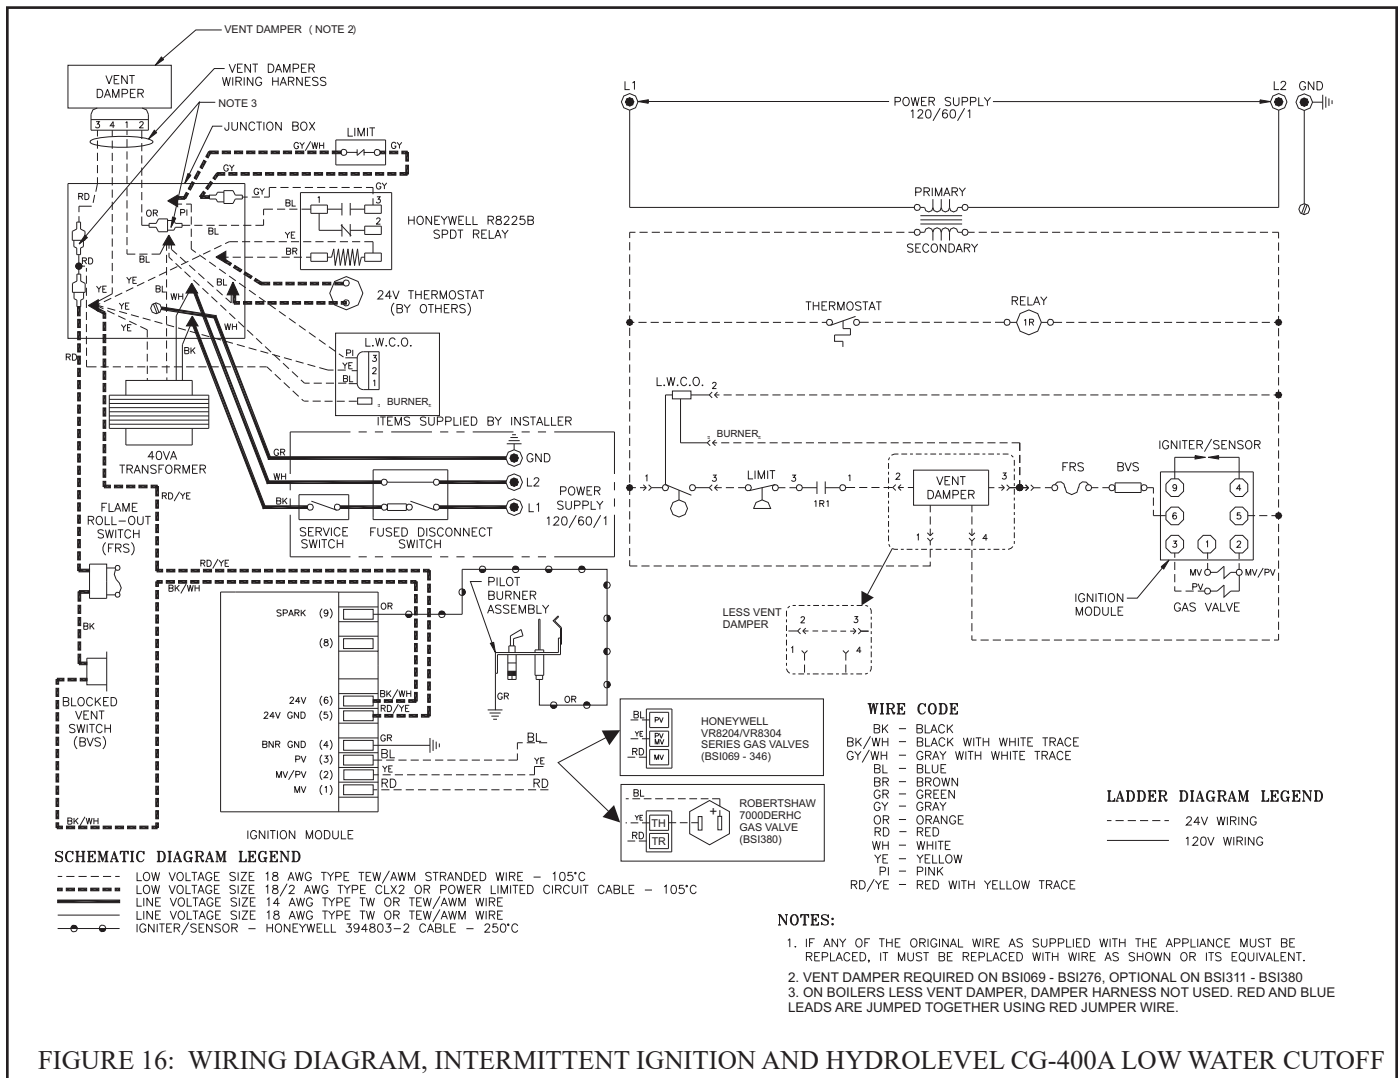

FIGURE 16: WIRING DIAGRAM, INTERMITTENT IGNITION AND HYDROLEVEL CG-400A LOW WATER CUTOFF
1) 120 Volt Wiring - The boiler should be provided with its own 15A branch circuit with fused disconnect. All 120 volt connections are made inside the junction box on the left side of the boiler. Remove the transformer to gain access to this box (also see Figures 16 through 17):
(Refer to Figures 16 & 17 for ladder and connection diagrams)